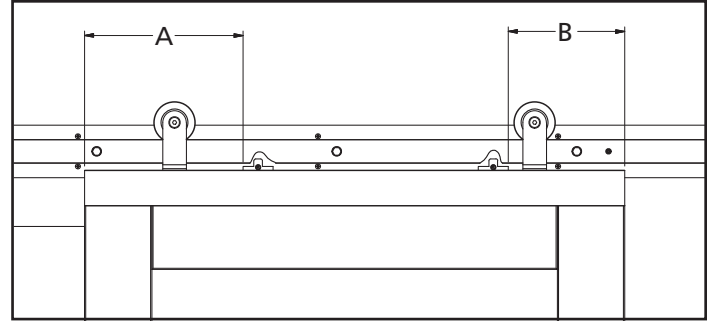

Figure 24. Soft Close Trigger Alignment
1. Tighten anti-jump rods into the soft close trigger assemblies ⑧ using supplied 3mm Allen wrench ⑨.
- a. Measurement 'A' is taken from edge closest to handle, as shown in Figure 24.
4. Secure triggers ⑧ in place with set screws using supplied 3mm Allen wrench ⑨.